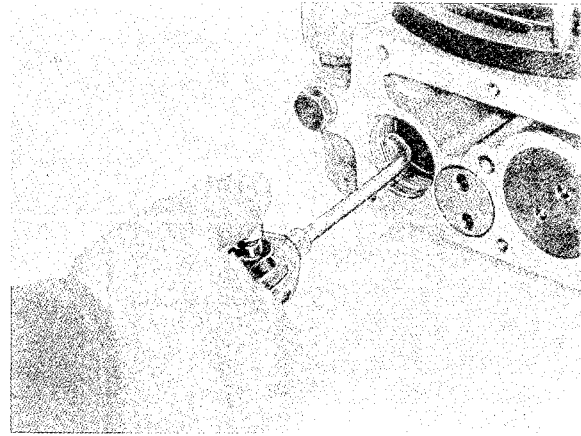

Fig. 4-43. Blowing orifice nozzle clean
4. Before fitting the parts of the relief valve, it may be suitable to blow the orifice nozzle clean with compressed air, see Fig. 4-43.
The orifice nozzle is accessible after the cylinder of the relief valve has been removed according to above. Blow the orifice nozzle clean with compressed air, see Fig. 4-43.